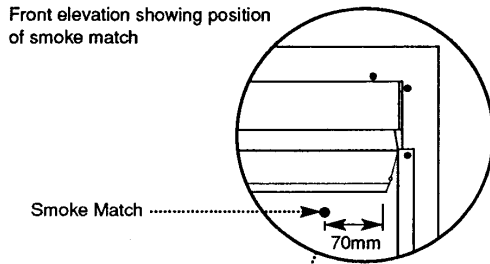

Fig. 31
4. Fit a smoke match into a holder, and position with the holder held horizontally projecting 20mm under the lip of the canopy bottom and 70mm from the start of the straight section on one side of the fire (Fig. 31 & 32).